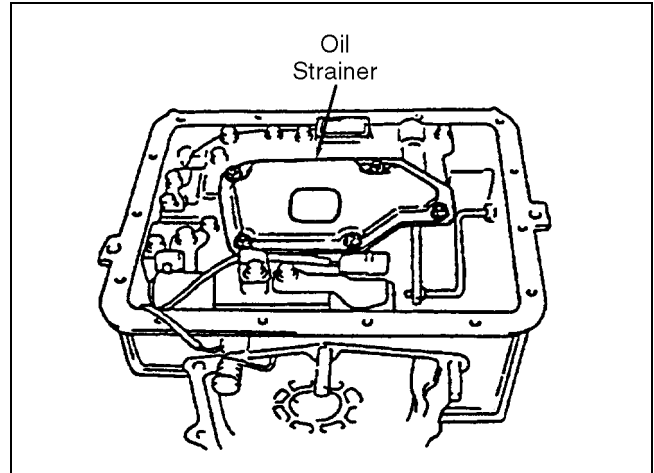

Figure 4J-41. Oil Strainer Installation
2. Position the oil pan magnet under the oil strainer and attach the oil pan as shown in Figure 4J-42. Tighten the 15 oil pan screws to 2.9 to 4.4 ft-lbs. (3.9 to 5.9 N.m) and tighten the drain plug to 13 to 19.5 ft-lbs. (17.6 to 26.5 N.m).